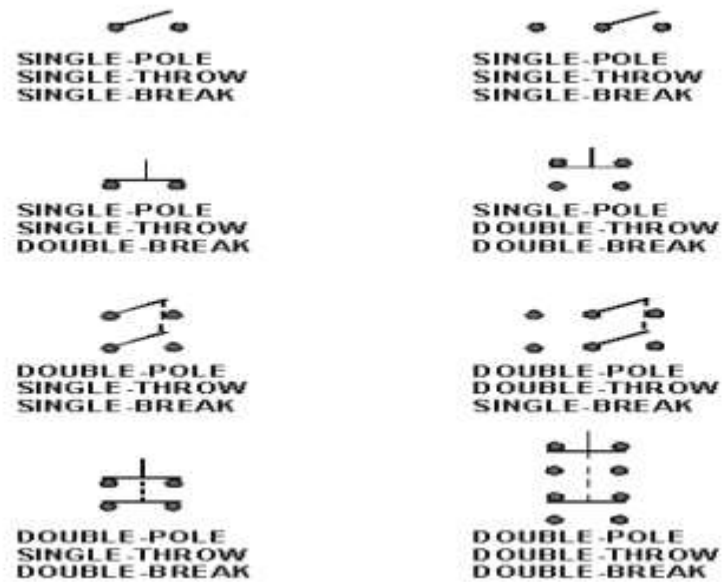

Figure 9: Schematic symbols of switch configurations.
switches shown so far have been single-break switches. A double-break switch is shown in figure 9. The schematic symbol showed in figure 9(A) shows that this switch breaks the circuit in two places (at both terminals). The upper part of the schematic symbol indicates that these contacts are in the open position and the circuit will close when the switch is acted upon (manually or automatically). The lower symbol shows closed contacts. These contacts will open the circuit when the switch is acted upon
Figure 9(B) is a picture of the switch. This switch is called a pushbutton switch because it has a button that must be pushed to change the switch contact connections. Notice that the switch has four terminals. The number of poles in a switch is independent of the number of throws and whether it is a single or double break switch. The number of throws in a switch is independent of the number of poles and whether it is a single or double break switch. In other words, each characteristic of a switch (poles, throws, break) is not determined by either of the other characteristics